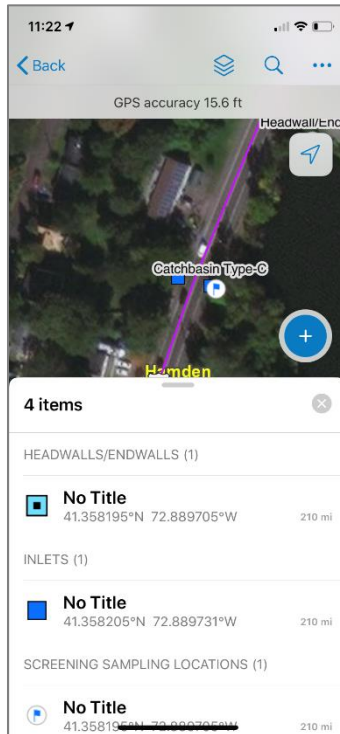

Figure 44. Select an existing feature in the ArcCollector app.
1. To edit an existing feature, use your finger to select the target feature. A list of items will pop up (Figure 44, below). Click on the correct item.